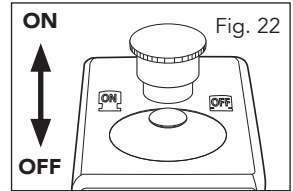

Fig. 22
2. To switch ON the compressor, pull up the switch (9) (Fig. 22).
3. To switch OFF the compressor, press the switch (9) down (Fig. 22).